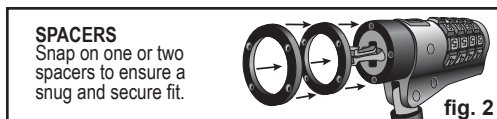

fig. 2
• Snap on one or two spacers to ensure a snug and secure fit. [fig. 2]
2. Snap on at least one spacer according to fit. If lock is loose after step 4, add another spacer. If locking becomes difficult, remove one or both spacers. [fig. 2]